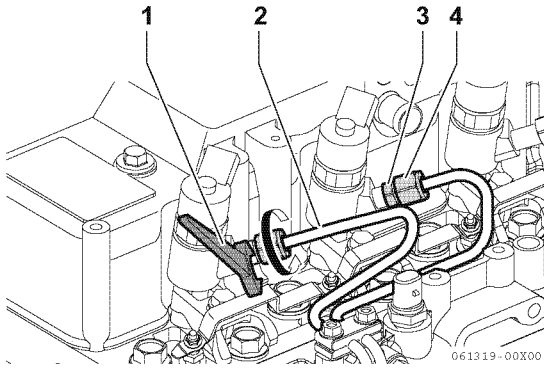

Figure 7-12
- 2- Loosen the cap nut of the high-pressure pipe on the injector side (**Figure 7-12, (4)**). When loosening the cap nut, hold the inlet connector of the pipe (**Figure 7-12, (3)**) using a spanner (**Figure 7-12, (1)**) or other tool so as not to rotate the connector together.
- 3- Next, while pressing and holding the pipe against the bearing surface by hand, loosen the cap nut of pipe on the rail side (**Figure 7-12, (2)**) using a tool.